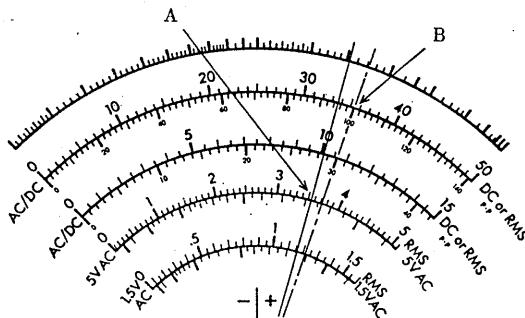

Fig. 3-12
- (1) Output signal voltage at plate of video amplifier tube in a TV receiver is measured. In this example, the range switch is first placed in the 1500V position, and gradually turned counterclockwise. In the 50V range, meter indication as alternate long and short dash line shown in Fig. 3-12 is obtained. 100Vp-p is obtained at arrow B on the p-p scale. In 5 ranges more than the 15V, red p-p scale provided below the RMS scale is directly read.
- (2) When vertical synchronizing signal voltage is measured, meter indication as arrow A on continuous line shown in Fig. 3-12 is obtained. Since no p-p scale is provided in the AC 5V scale, the p-p scale in the 50V scale is utilized as following procedure.